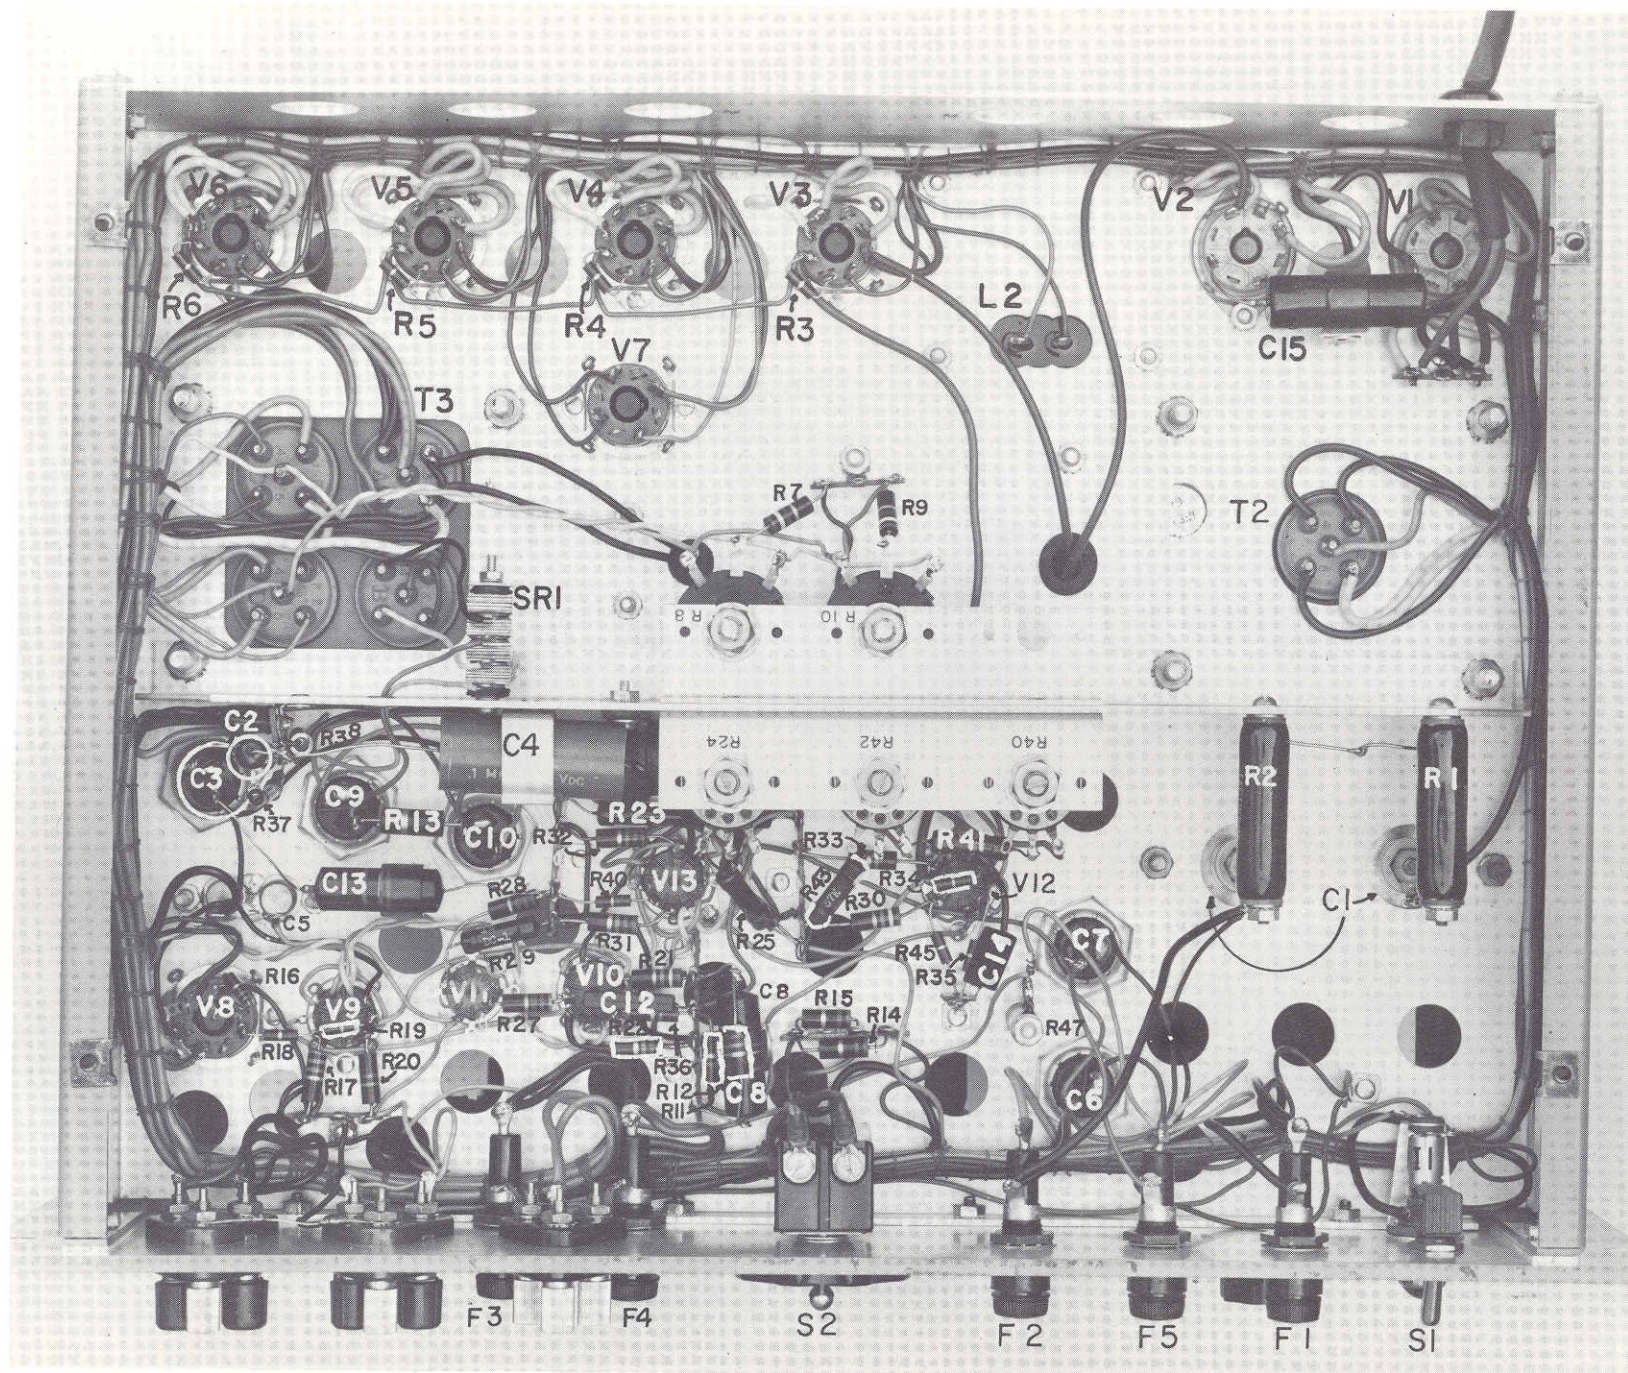

Figure 4. Model 712B Bottom View Bottom Plate Removed
Location of resistors R40, R42, R24, R10, and R8 on the bottom of the instrument are shown in Figure 4.
d. If the new reading of the VTVM differs by more than .01 - .02 volt, adjust variable resistor R8 (see Figure 4), and repeat steps b and c.
b. With the METER RANGE switch in the 0-500V position and the HV CONTROL in its maximum clockwise position, adjust variable resistor R42 (see Figure 4) until the DC voltmeter on the control panel reads +500.